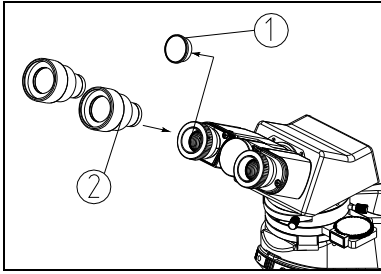

Fig. 10
- Remove the cover of eyepiece tube ①. (Fig. 10)
- Insert the eyepieces ② into the eyepiece tube